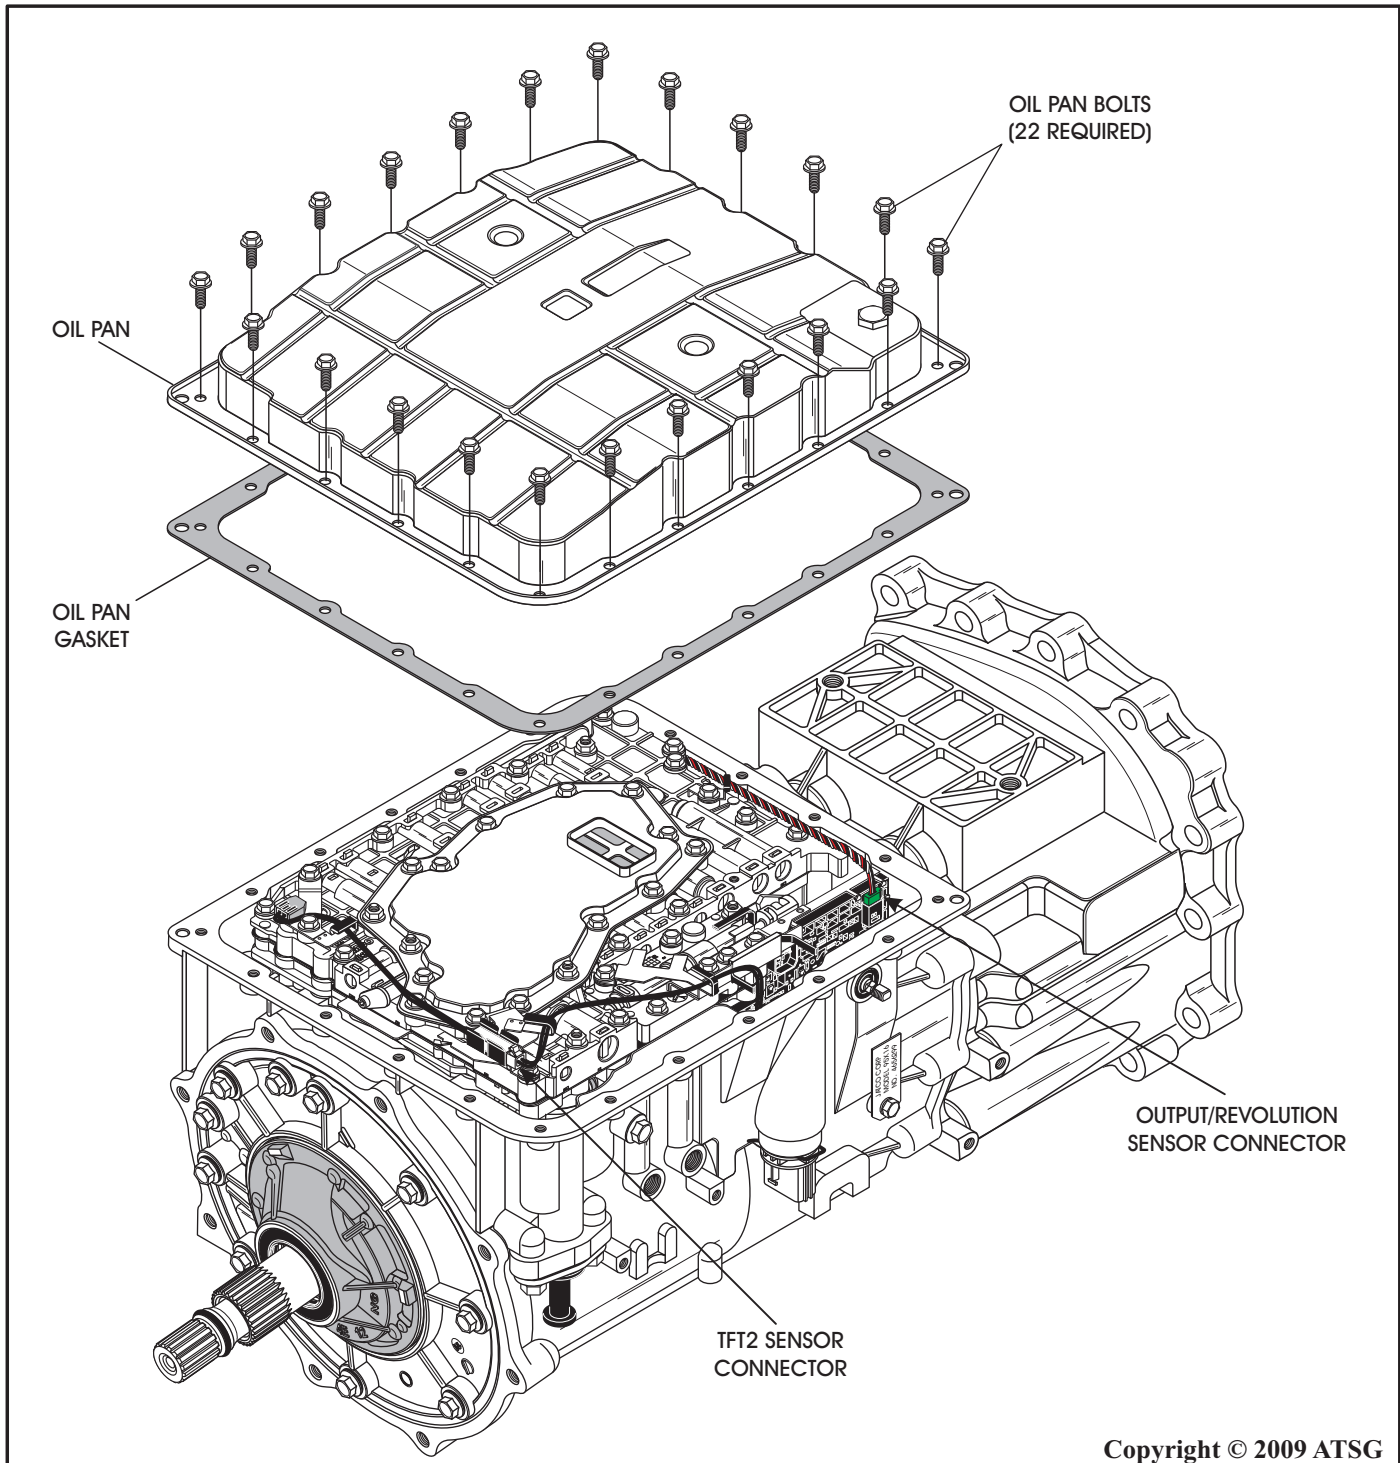

Figure 39
5. Remove the 22 pan retaining bolts, as shown in Figure 39, and remove oil pan.
6. Remove and discard oil pan gasket, as shown in Figure 39.
7. Disconnect the TFT2 sensor connector, so the valve body retaining bolts can be removed. (See Figure 39).
8. Remove the output/revolution speed sensor connector from PNP switch (See Figure 39).
9. Straighten the wire harness clips to free the output/revolution speed sensor wire harness. (See Figure 39).